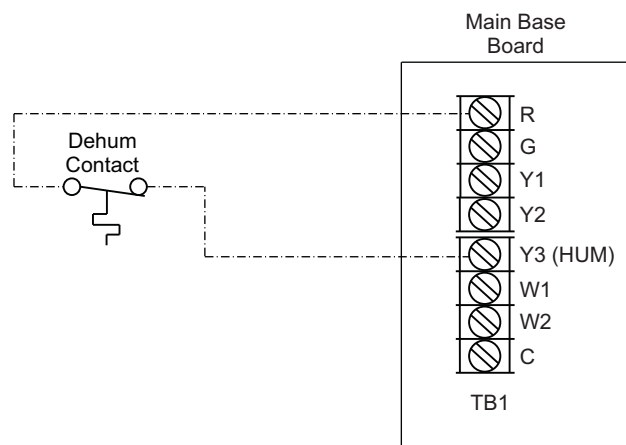

Fig. 43 — Humidistat Connections to MBB (SystemVu Units)
3. For SystemVu controller units connect one of the leads from the 2-conductor cable to the Y3 (HUM) terminal on the MBB (Main Base Board). Connect the other lead to the R terminal on the MBB. See Fig. 43.